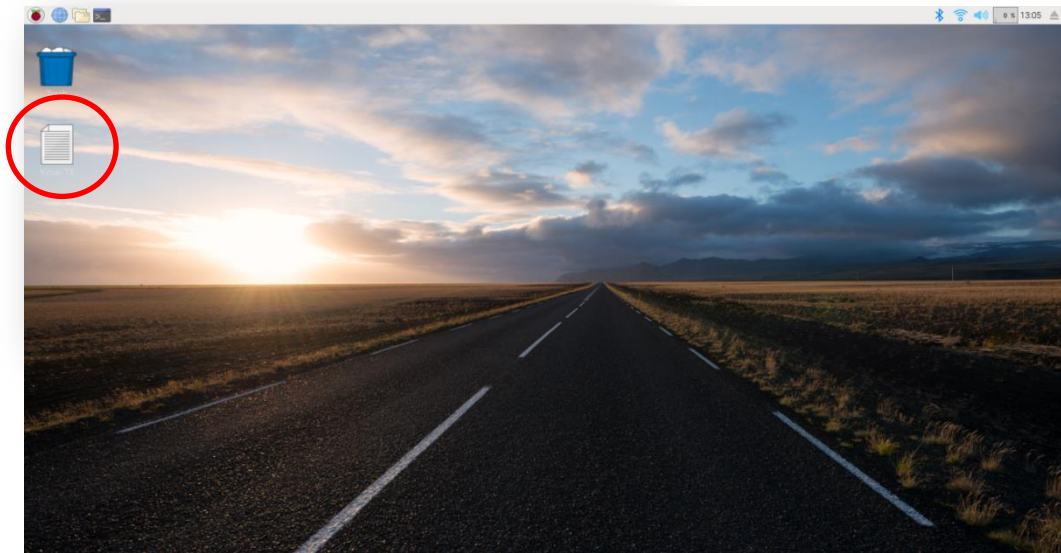

Figure 10 - Base Station Computer Desktop
Figure 10 below shows the Base Station Computer’s desktop; notice the “**Kinisi-TS**” desktop shortcut located at the left of the desktop. If the Kinisi software is not already running, simply double-click with the left mouse button on the shortcut to start the Kinisi Tracking System Application software.
1) After exiting the Kinisi application software by left mouse clicking on the “X” at the top right corner of the screen or by selecting “Exit” from the “File” menu, Kinisi will display the message “**Are you sure you want to quit?**”, if you click the “Yes” button then the Kinisi application will be closed and the Base Station Computer desktop will be visible as shown in Fig 10 on the previous page